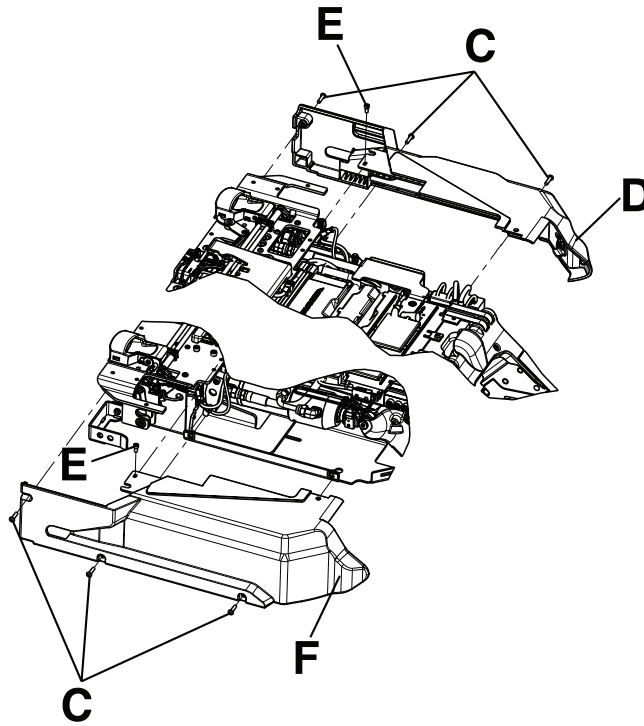

Figure 12 – Trolley side covers
2. Using a T25 Torx driver, remove the three screws (C) left side cover (D) (Figure 12). Save the screws.
3. Using a 5/32" hex wrench, remove one hex head screw (E) from the top of the left side cover (D) (Figure 12). Save the screw.
5. Repeat steps 2-4 to remove the side cover, right (F) (Figure 12).